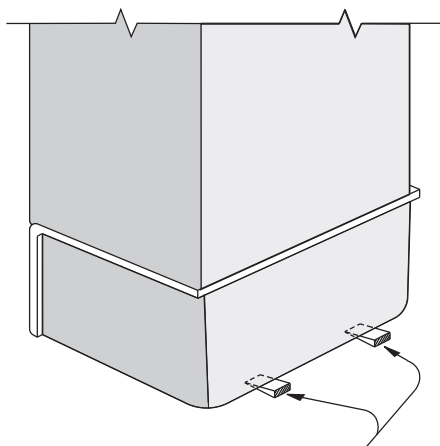

Figure 1 Wood Support Shims
3. Placement of the two wood shims is MANDATORY to provide bottom structural support of the base unit. See *Figure 1*